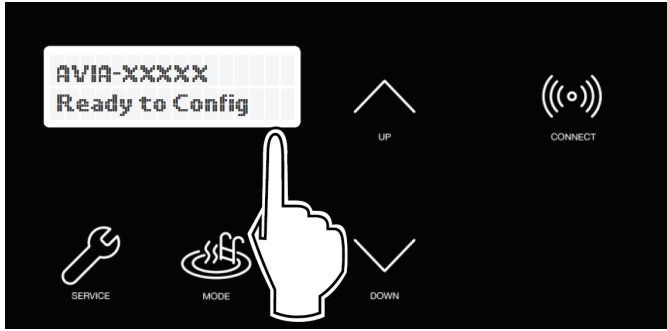

Figure 80. Wi-Fi Ready to Configure and HOTSPOT Identifier
- 2. The CONNECT menu should display the Wi-Fi State, indicating "Ready to Config" wireless connection, and also the HOTSPOT identifier. See **Figure 80**.